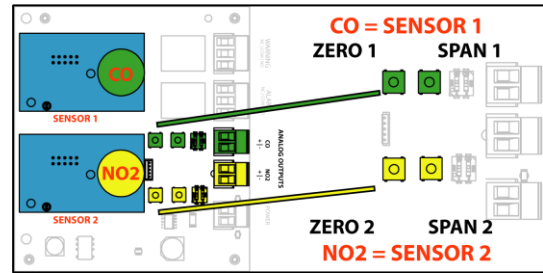

Figure 9: Location of Calibration Controls. CO is green; NO2 is yellow.
Each sensor must be sequentially calibrated with two different gases. The Zero gas is the same for both sensors and is used for the 'zero' calibration, which must be done first. The 'span' gas is different for each sensor and used for the 'span' calibration which **MUST** be done **ONLY AFTER** a successful zero calibration. Each calibration is started with one of the two calibration buttons (ZERO and SPAN) for each sensor module as shown in Figure 9.
2. Start the desired calibration by pressing either the 'ZERO' or 'SPAN' button of the sensor being calibrated (see Figure 9) for 3 seconds until the sensor's status LED starts blinking **YELLOW**. Gas sampling starts immediately.